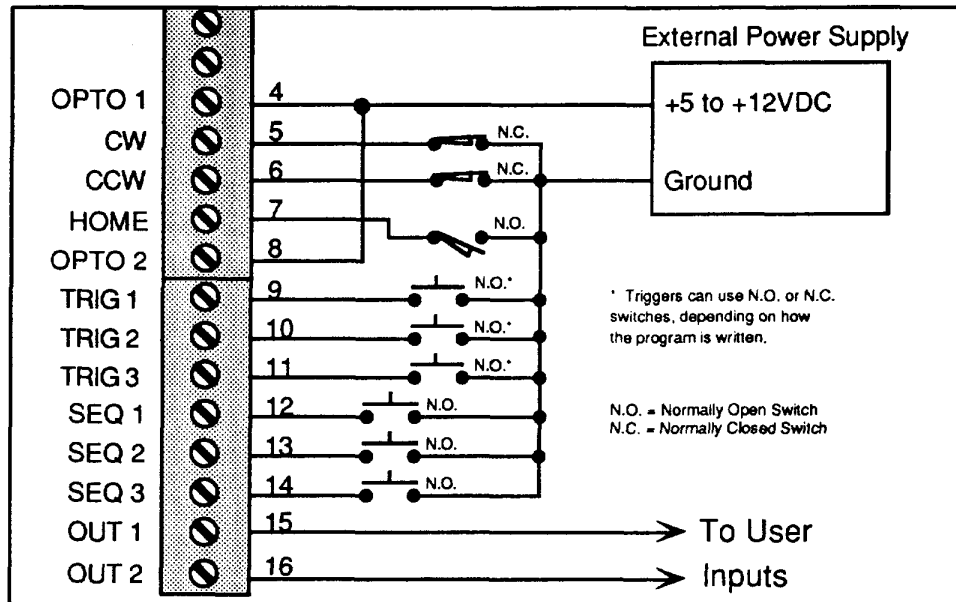

Figure 3-10. I/O Wiring Diagram
This section discusses wiring the user I/O interface circuits from the 16-pin connector on the AX Drive. *Note that pins 1, 2, and 3 are for RS-232C communication with the computer or terminal. Figure 3-10 illustrates the other I/O connections.*
*NOTE: Pin 1 on the encoder connector (+5V) can also be used **only if the encoder is not connected**.* The Opto 1 input powers the limit and home switches, and the Opto 2 input powers the other I/O. In most cases, Opto 1 and Opto 2 are connected together. Refer to Figure 3-10 for connections.
- End-of-Travel Inputs** Pins 5 and 6 are the Clockwise and Counter-clockwise end-of-travel limit inputs. The CW and CCW limit inputs are activated in the high state and require a normally closed load-activated switch to the external supply ground. It is also necessary to connect a +5 to +12VDC power source to the OPTO 1 input (Pin 4); the Ground of this supply is used as the ground for the limit inputs. Refer to Figure 3-10 for limit switch connections.
- HOME INPUT** You can use the home input (pin 7) to establish a home reference position. The Home limit input on the AX is optically isolated, and is normally high. A normally open, load-activated switch to the external supply ground is the most common way for determining the home position in both motor step and encoder step mode. In encoder step mode, the Z channel pulse from the encoder is used in conjunction with the home limit switch to determine the home position. Refer to Figure 3-10 for switch connections.
Trigger Inputs	The AX has three trigger inputs. They are normally high and optically isolated. Trigger inputs 1 - 3 are connected to pins 9 - 11 respectively (see Figure 3-10). The +5 to +12VDC power source is still needed at the OPTO 2 input (Pin 8). The return line for the Trigger inputs is the OPTO 2 power source ground. See the TR and the TS command descriptions in Chapter 7 for functional description of these inputs.
Sequence Inputs	The AX has three optically isolated Sequence Select inputs (SEQ1, SEQ2, and SEQ3). They are normally in the high state. These optically isolated inputs require that 5 - 12 VDC be connected to the OPTO 2 input (pin 8). These inputs (pins 12 - 14) are active low , which means to energize them they must be at logic 0 or, ground. Therefore, ON is equivalent to the input being energized, or pulled down to 0VDC. OFF is equivalent to the input being de-energized, or logic high . These inputs are normally high. Refer to Figure 3-10 for Sequence switch connections.